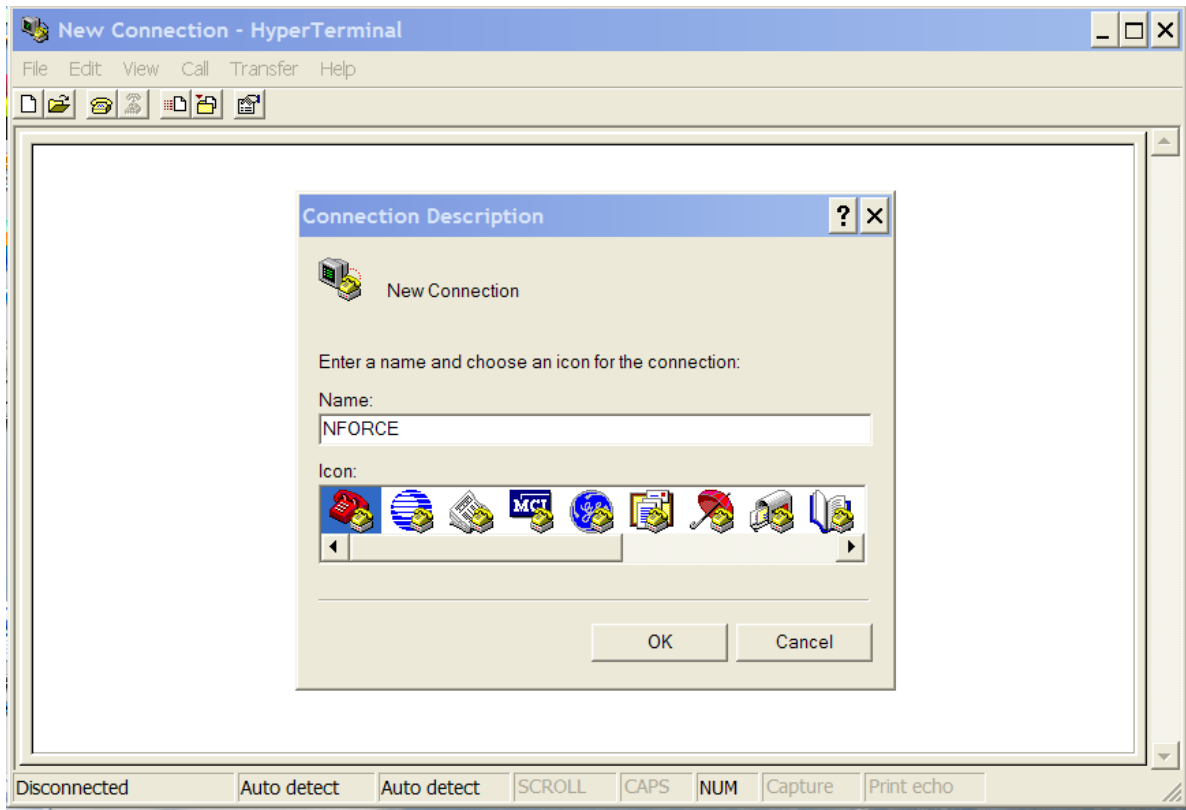

Figure 6-2 – Naming the *NFORCE* HyperTerminal Connection
- If this is the first time you have connected to the *NFORCE* with Hyper Terminal, create a new connection. Give the connection the name *NFORCE* as shown in Figure 6-2. Click OK when you have entered the name and chosen an icon.